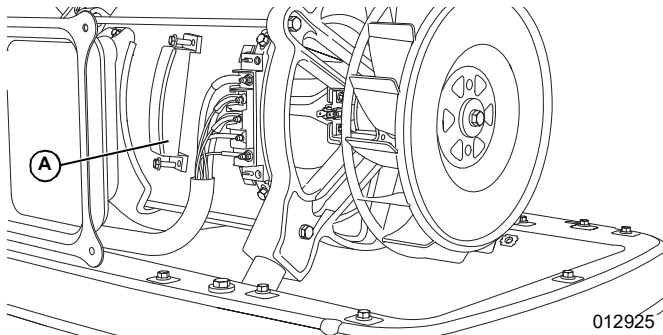
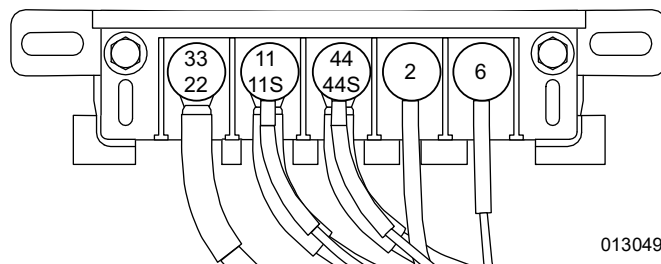

Figure 2-16. Stator Terminal Block (STB)
Figure 2-17. Stator Terminal Block Wires
- See **Figure 2-16** and **Figure 2-17**. Remove the stator terminal block cover (A) and identify the studs containing Wires 2 and 6.
1. See **Figure 2-16**. If the meter indicated a resistance value of OPEN in Procedure A, but a resistance value consistent with the values found in **Specifications** in Procedure B or Procedure C, repair or replace Wire 2 and/or 6 between the referenced connection points. Measure continuity on Wire 2 or Wire 6 between the referenced connection points to confirm which (or both) wire(s) is/are open.